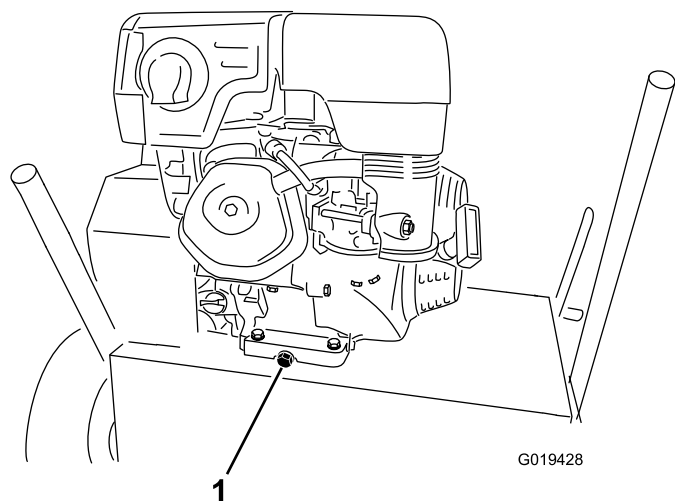

Figure 18
4. Remove the drain plug (Figure 18).